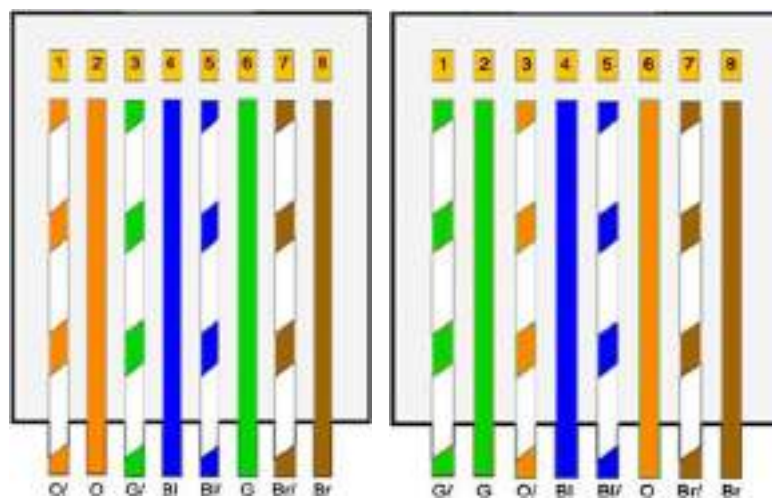

Fig. 2.2.2. 568 B & 568 A Wiring format
Step3: After separate the coloured wires, you will get eight different wires. Arrange them into the appropriate sequence that represented in the wiring diagram labelled EIA 568B. It may take some session for practice and to configure the wires into the exact sequence. They can be unruly and may need twisting and straightening. You must make the wires to be as close together as possible. Sometimes it helps to flex the wires lightly to better manipulate them into position. refer to Fig 2.2.2. The wiring sequence 568B is the most commonly using in Ethernet cable.